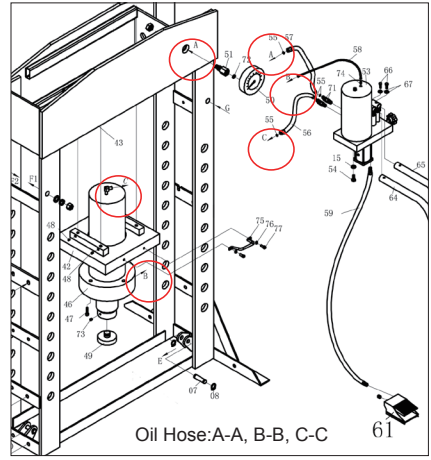
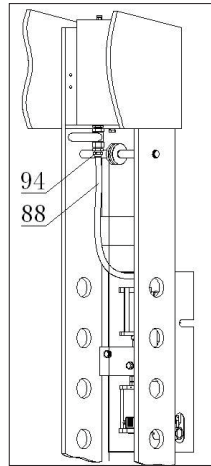
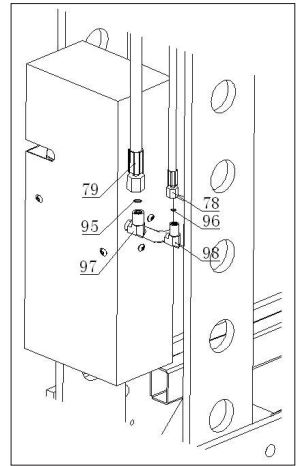

Fig.08
Fig.10
Fig.11
- Assemble oil hose :Fig.08 ( CP86750 ), Fig.10 ,Fig.11 ( CP86100 ).
- Operate by air: Depress the air foot valve(61, Fig.08)